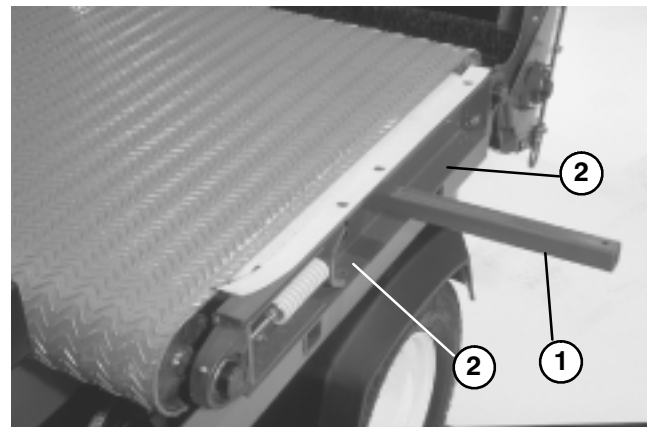

Figure 29
7. Remove (2) capscrews, washers and nut, on left side of machine, securing slider bed to frame (Fig. 29).
A. Insert a lift bar into hole on left side of machine and raise lift bar to tip slider bed (Fig. 29).